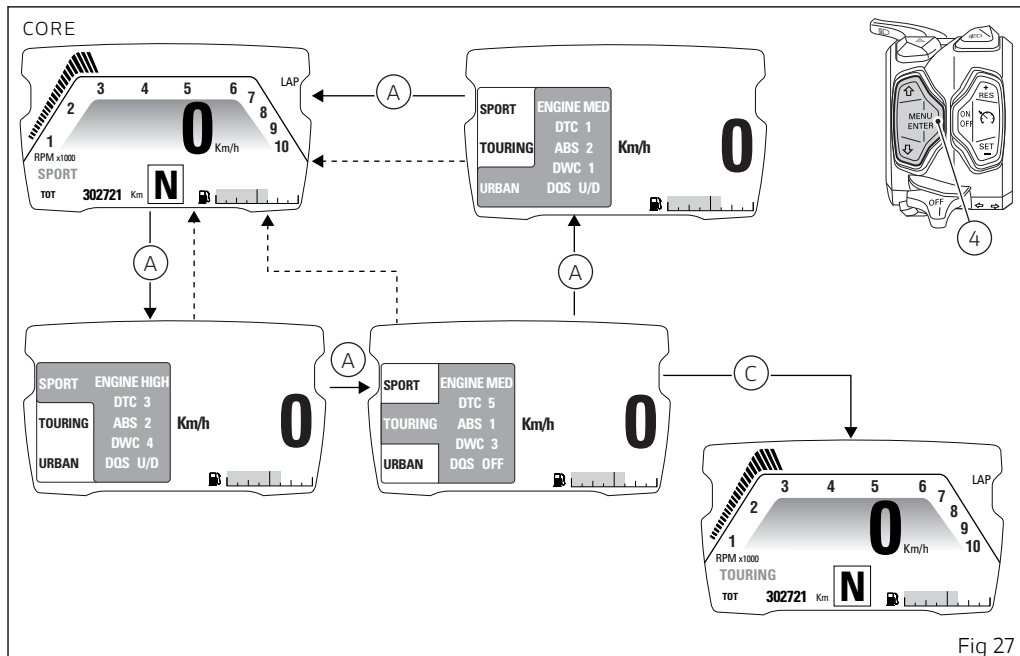

Fig 27
Any time the CONFIRM MENU button (4) is pressed, you highlight a riding mode and the associated parameters are displayed (A, Fig 27).
Once the desired riding mode (A, Fig 27) is highlighted, confirm the selection by holding down the CONFIRM MENU button (4) for 2 seconds: the new riding mode selection is stored and the standard screen (C, Fig 27) is displayed for the selected riding mode.